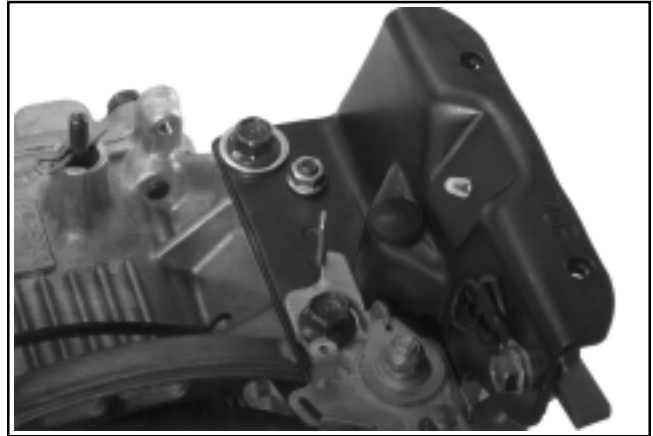

**Figure 9-24. CS8.5 (spec. 92xxxx), CS10, and CS12 Ground Lead Location.**
1. Disconnect the wiring harness bullet connectors for the oil sentry and ignition module. Remove the mounting screw securing the ground lead. See Figures 9-24 and 9-25. Disconnect the rectifier-regulator lead connections if used.